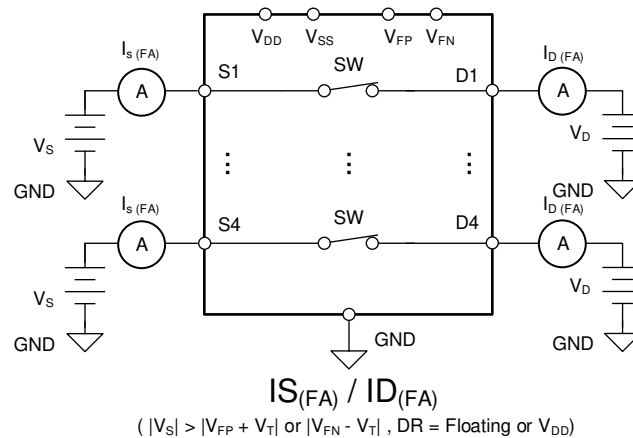
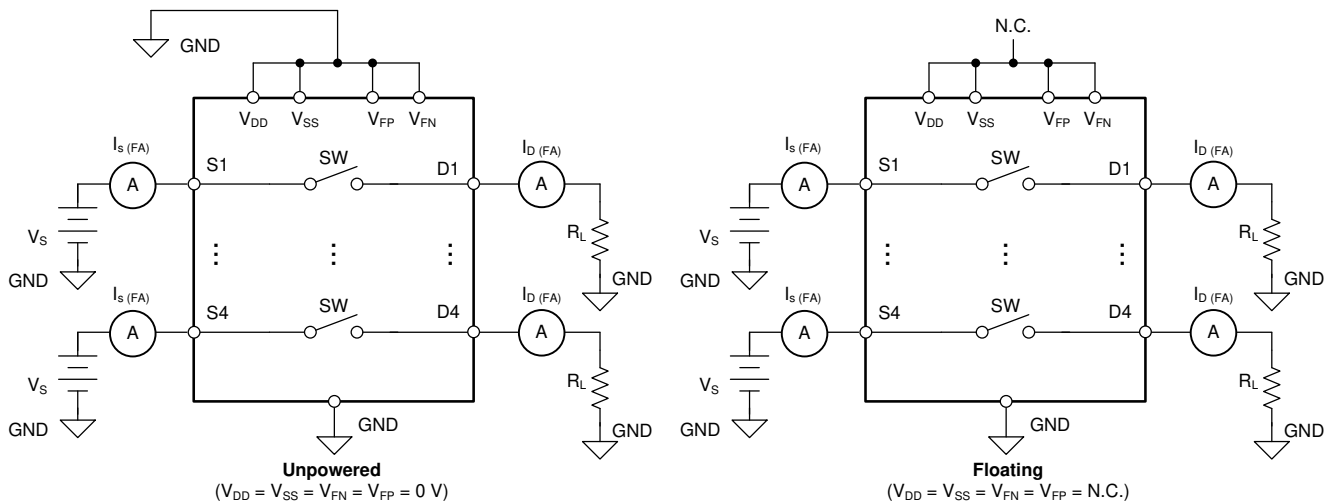

Figure 7-3. Measurement Setup for Input and Output Leakage Current Under Overvoltage Fault with Normal Supplies
Figure 7-4. Measurement Setup for Input and Output Leakage Current Under Overvoltage Fault with Unpowered or Floating Supplies
If any of the source pin voltage goes above the fault supplies (V_{FP} or V_{FN}) by one threshold voltage (V_T), the TMUX7462F's overvoltage protection feature is triggered to turn off the switch under fault, keeping the fault channel in the high-impedance state. $I_{S(FA)}$ and $I_{D(FA)}$ denotes the input and output leakage current under overvoltage fault conditions, respectively. The supply (or supplies) can either be in normal operating condition (Figure 7-3) or abnormal operating condition (Figure 7-4) when the overvoltage fault occurs. The supply (or supplies) can either be unpowered ($V_{DD} = V_{SS} = V_{FN} = V_{FP} = 0$ V), floating ($V_{DD} = V_{SS} = V_{FN} = V_{FP} =$ No Connection), or at any level that is below the undervoltage (UV) threshold during abnormal operating conditions.